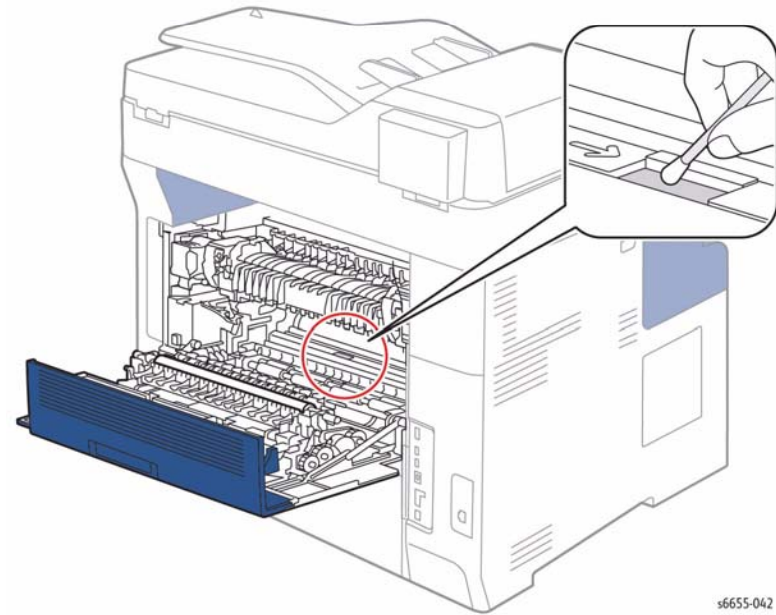

Figure 10 Clean the CTD Sensors with a Cotton Swab
9. Use a dry cotton swab to clean the color toner density sensors, Figure 10.